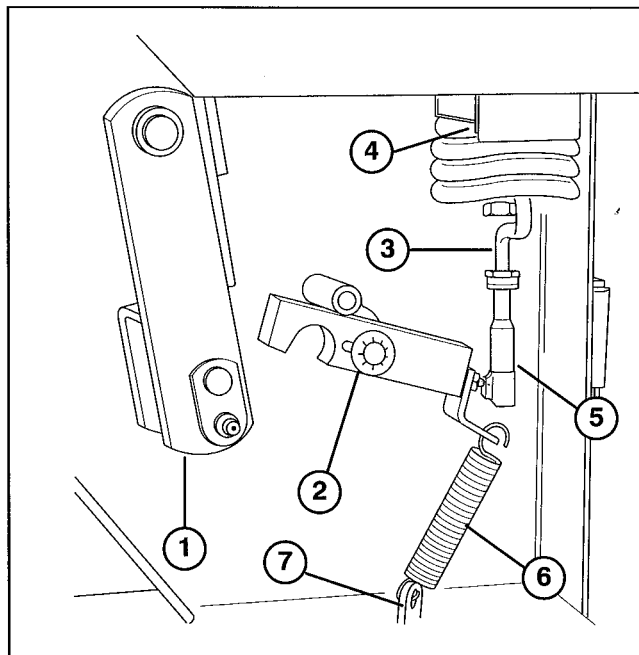

Figure 48
- A. Unlock ball joint from latch ball (Fig. 48).
IMPORTANT: Make sure rod is positioned squarely as shown in Fig. 48.
Note: Make sure there is no tension on return spring when rod is in the disengaged (down) position. Loosen spring bracket capscrew and rotate bracket in or out until spring tension is relieved on spring. Tighten capscrew. Spring is to be hooked on latch from inside out as shown in Fig. 48.